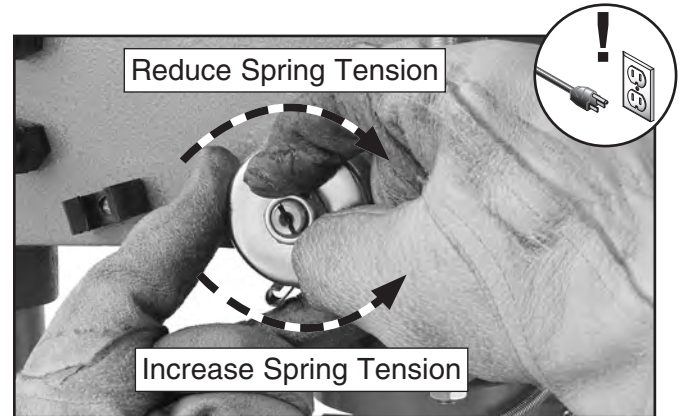

Figure 54. Example of adjusting cover.
6. Rotate cover counterclockwise to increase tension, or let cover slowly unwind in clockwise direction to reduce spring tension (see **Figure 54**).